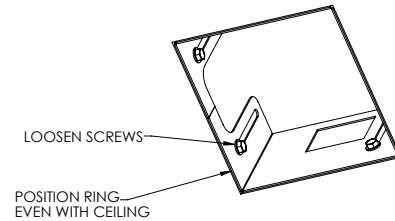

FIGURE 5
- 1. With finished ceiling or tile in place, loosen adjustment screws (see Figure 5) and position ring even with ceiling. Re-tighten screws securely.